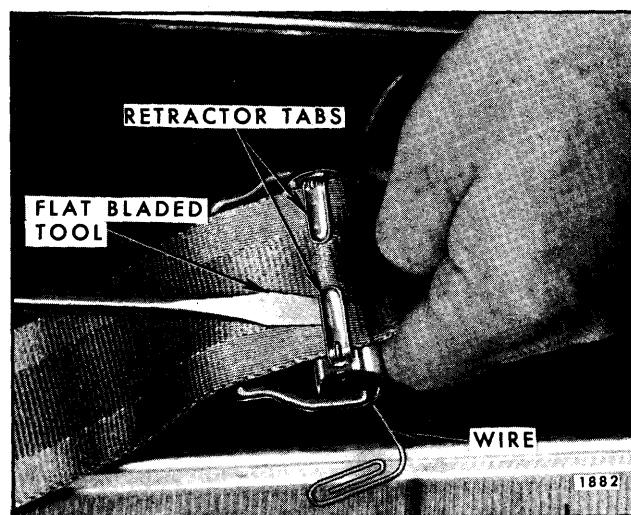

Fig. 15-96—Removal of Bail Type Retractor From Seat Belt
2. Insert a piece of stiff wire such as a paper clip in slot in roller drum to maintain spring tension of retractor (See Fig. 15-96).
3. Using a flat-bladed tool pry open tabs that secure belt webbing on drum and remove retractor from belt (See Fig. 15-96).